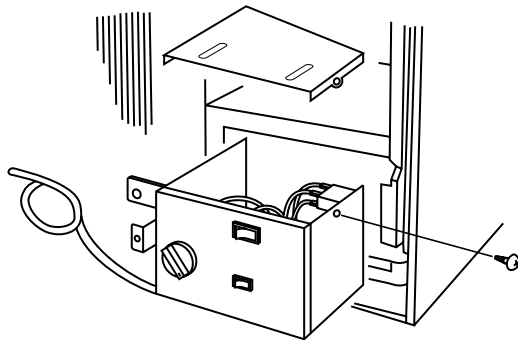

Fig. 7
- (3) Remove screw holding the lid of the electrical component box. (Fig. 7)